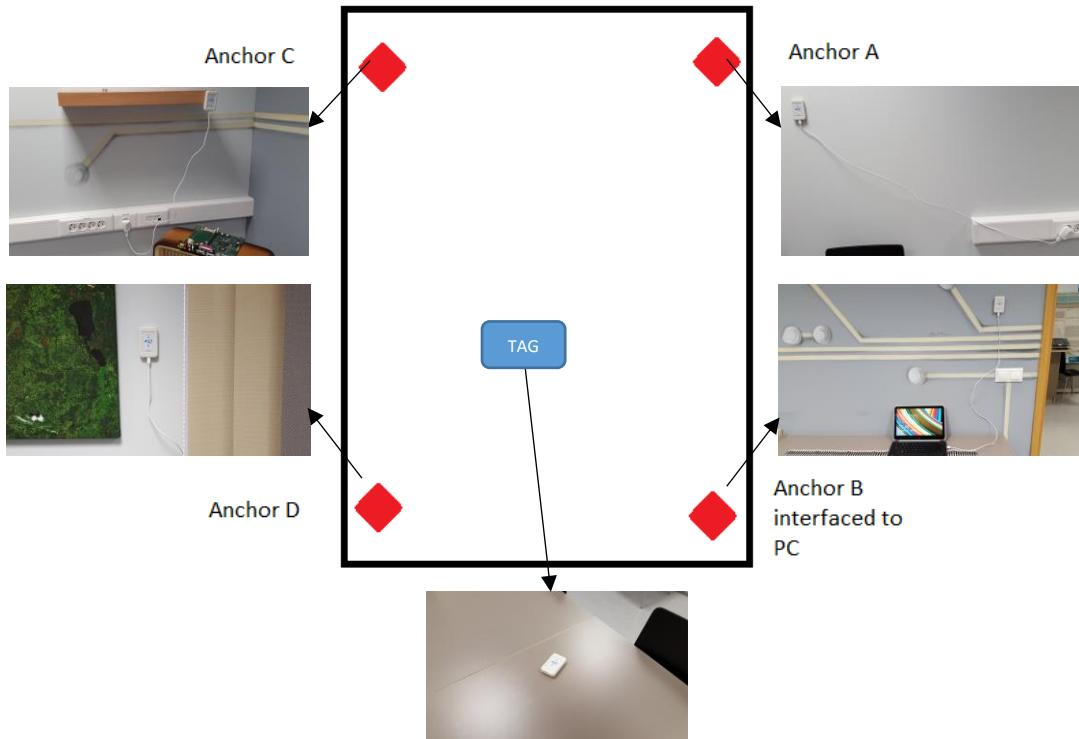

Fig. 2: Installation example of anchors for 2D positioning
- c. The placement of anchors should follow a triangular or rectangular pattern shape (Fig. 2, 3). The line of sight distance between devices should not exceed 20-25 meters (65-80 ft.).
The operation accuracy of the KIO RTLS system relies on a reliable radio signal reception and proper placement of anchors as intentional UWB receivers. Anchors should be placed in the perimeter of small rooms. For large rooms, several RTLS cells have to be installed. It is recommended to place anchors above major obstacles in the room, for example furniture. The anchors may be installed on the same height for 2D positioning (Fig. 2). For accurate 3D positioning, anchors A and D should be installed higher (for example close to the ceiling) and B, C lower (for example on the floor level). For shown current $30m^2$ (330 sq ft) 2D test site has 4 C4 KIO anchors and 1 battery powered tag (KIO Tag B4). Anchors are mounted 1.2m (4 ft) from the floor. Anchors A, C, D are powered from USB wall supplies. Anchor B is connected to a PC and is used for collecting the tag ranging data.